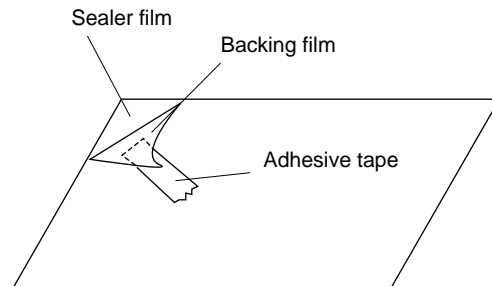

Figure C-7. Sealer film
1. Put the adhesive tape on the backing film of the sealer film as shown in Fig. C-7.